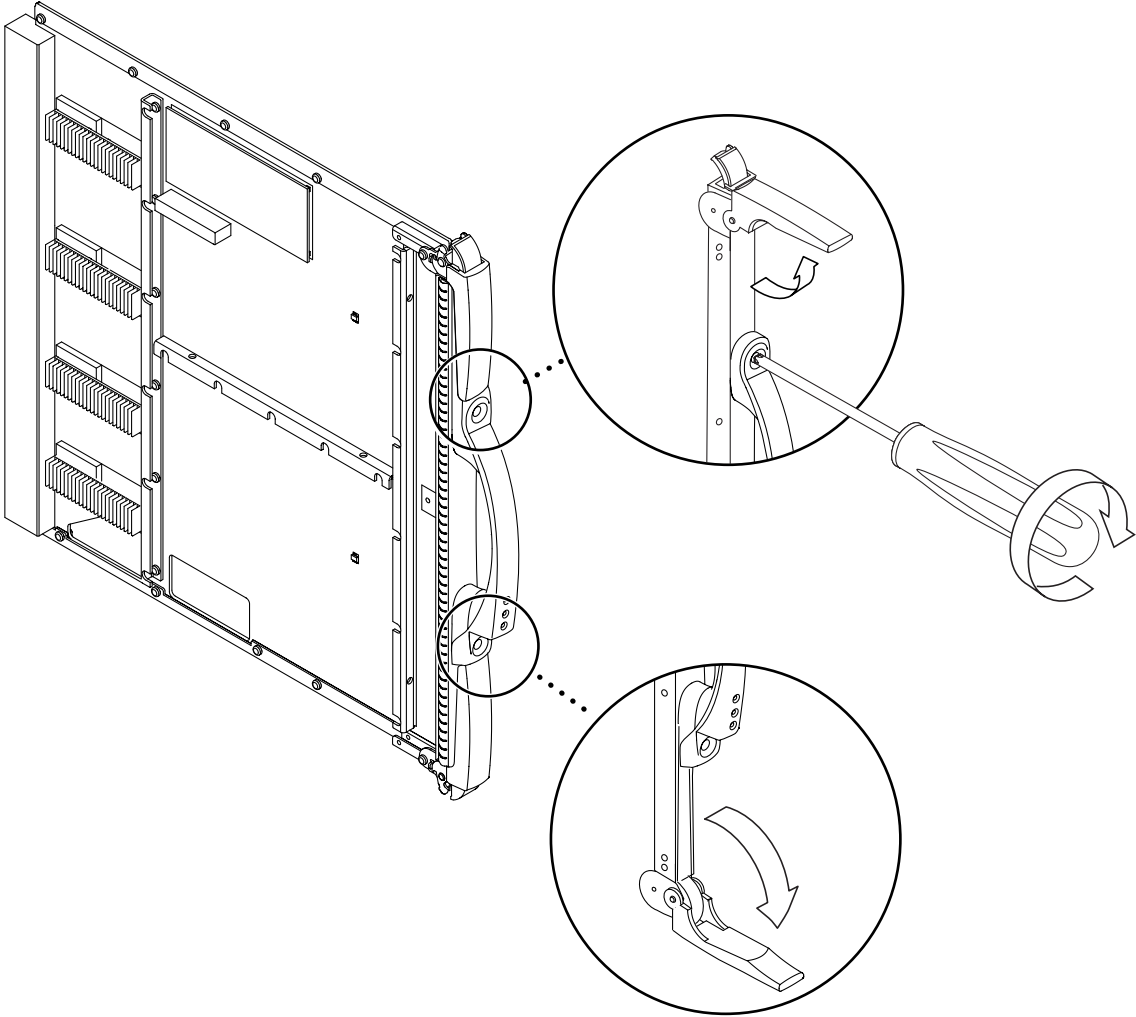

FIGURE 11-5 Unlocking the Ejector Levers
- 3. Unlock the ejectors on the Repeater board by using a Phillips No. 2 screwdriver (FIGURE 11-5).**
4. Rotate the ejector levers simultaneously until they are 90 degrees from the board (straight out) (FIGURE 11-5).